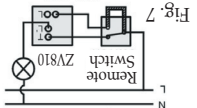

Fig. 7
• To replace a 2 way switch please refer to Fig. 7 for wire a link to the remote switch.